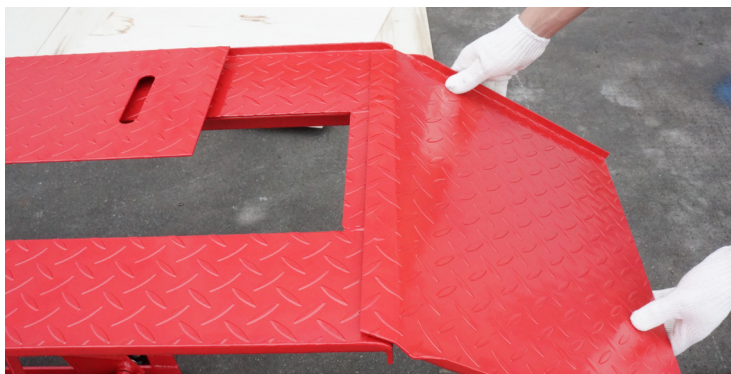

Fig. 11
9. Fit the Ramp (40) and Access Panel (41) onto the Platform (Fig.11).